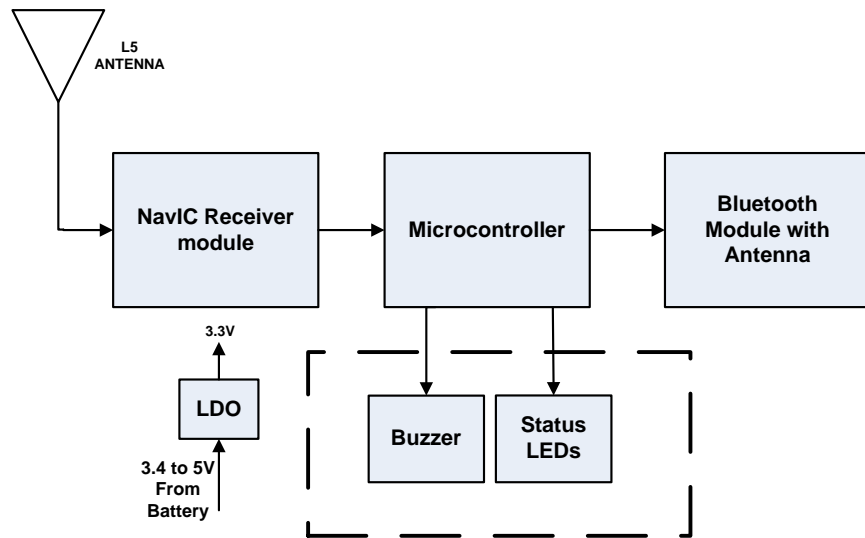

Figure-1: Block Diagram NavIC Messaging and Positioning Receiver
NavIC Messaging receiver has been designed to provide positioning along with messaging. NavIC module can be procured from ANTRIX Corporation Limited, Bengaluru, a commercial arm of ISRO. In addition to the NavIC chipset, it uses ATmega328P microcontroller and HC-05 Bluetooth(BT) module. The controller provides configuration for chipset and BT module. Microcontroller acts as an interface between chipset and BT. The TPS73633DBVT LDO converts 5V to 3.3V. It is designed to draw power from battery or power bank. The power consumption of the receiver is around 100 mA @ 5V. The receiver can work for about 4 days using a 10000mAh power bank. The block diagram of NavIC messaging and positioning receiver is as shown in Figure-1. Currently all the data from NavIC receiver is passed over BT to mobile which is consuming more power in both receiver and mobile. The blocks in dotted section are getting implemented as future enhancement. The idea is to save power in both mobile and device. This will be achieved by filtering out the messages in microcontroller and pass only needed messages to the mobile application. Figure 2 shows actual photograph of NavIC messaging receiver. The current size of PCB is 41mm x 46mm. The size of PCB with enhance feature is 70mm x 50mm.